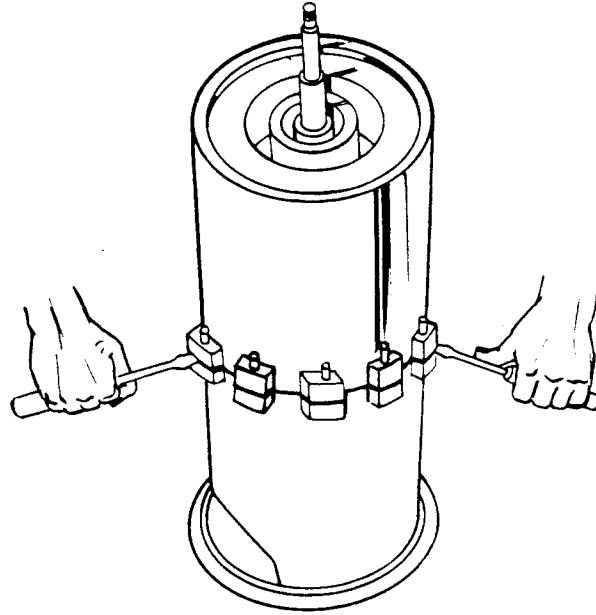

Figure 6. Separating Upper And Lower Motor Housings
Remove the nuts and washers (29 and 30) and separate the lower motor housing (2) from the upper motor housing (7). If necessary, use two screwdrivers to gently pry them apart as shown in Figure 6. Remove and discard the motor housing gasket (6).